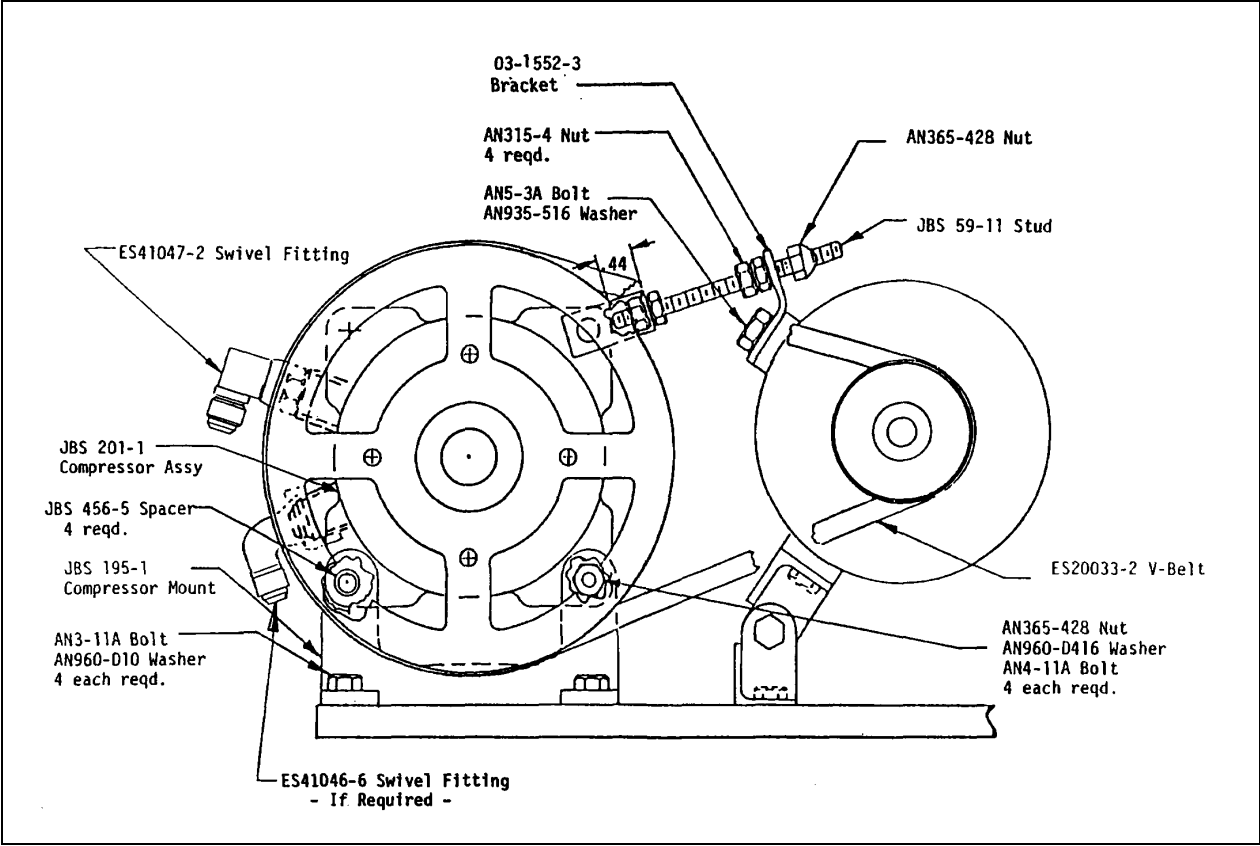

FIGURE 2.
12.13 Mechanically install the new compressor/pressure switch assembly on to the compressor/motor assembly in the reverse order of the removal procedures (See Fig. 2 & 3 on pages 9 and 10 for mounting details).The new pressure switch (P/N JBS2020-1) installed onto the R134 compressor (P/N JBS201-16) will require a modification for the electrical connection.